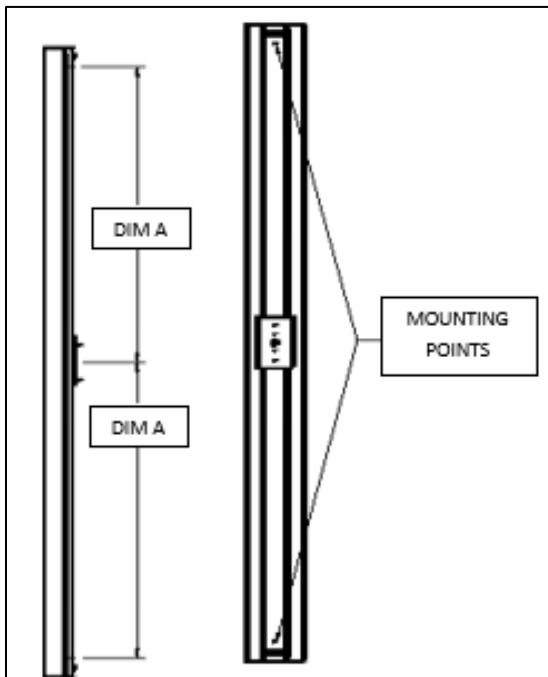

FIG. 8- MOUNTING LOCATION
- Once the BACK BOX is temporarily fixed, mark the HOLES for installing the ANCHOR BODY (by others) onto the wall. Install the Anchor Body based upon the MOUNTING INFORMATION provided in FIG 8 and 9.